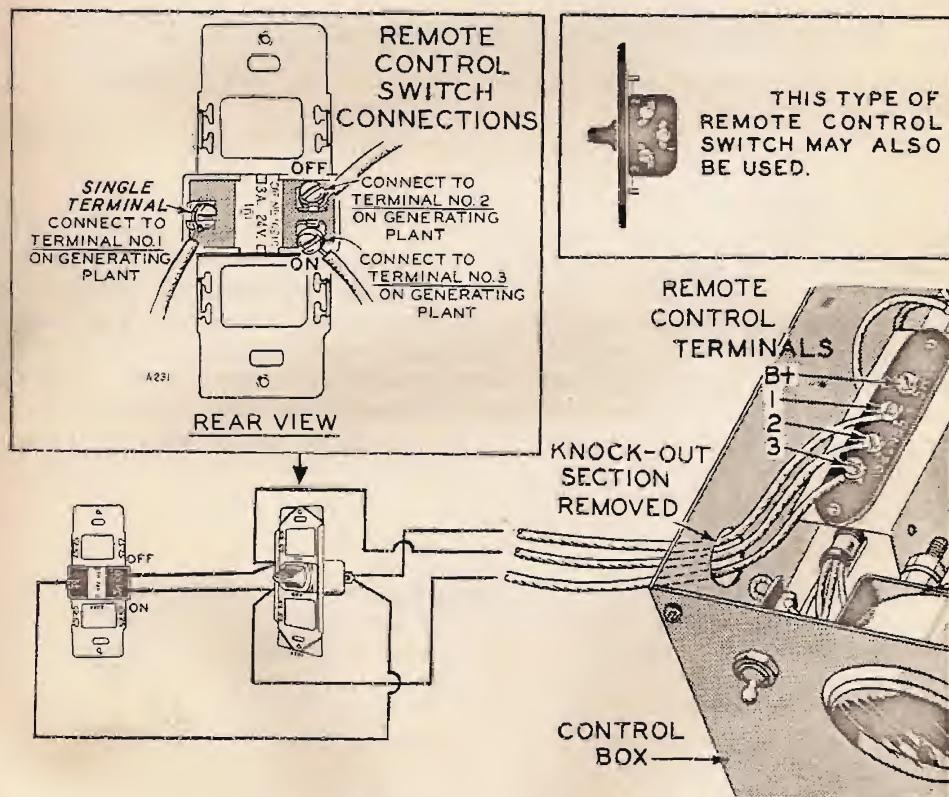

Fig. 11 Remote Control Connections
**REMOTE CONTROL CONNECTIONS.** A small four place terminal block, for remote control connections, is mounted in the control box of remote control models. To provide for remote control of starting and stopping, connect the remote control switch to this terminal block, Fig. 11.